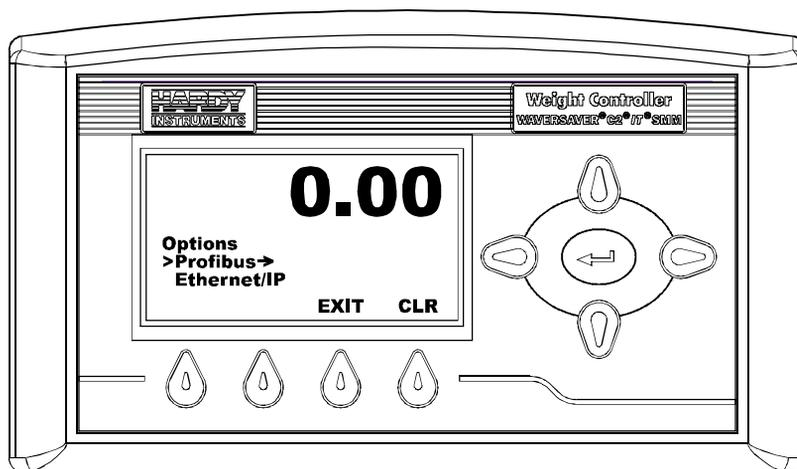

FIG. 171 OPTIONS MENU/SELECTING PROFIBUS
Step 3. Press the Enter button. The Options display appears. (See Fig. 171)